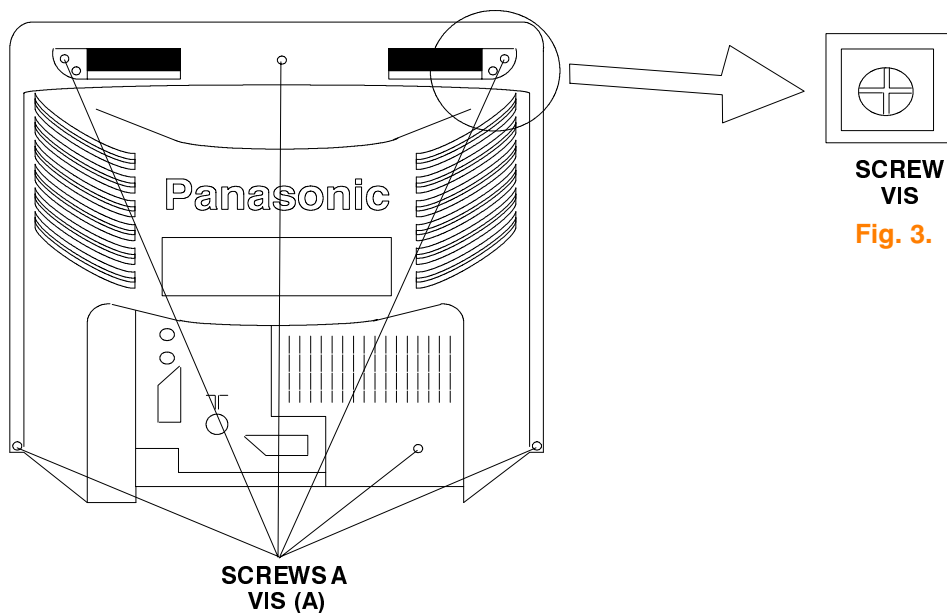

Fig. 2.
1. Remove the 6 screws (A) as shown in **Fig.2/Fig.3.**
1. Retirer les 6 vis (A) comme sur la **Fig.2. / Fig.3.**